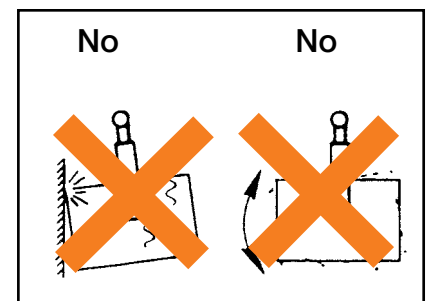

Figure 53
**⚠ WARNING!: Take up slack slowly. Do not bounce or jerk load (Fig. 53).**